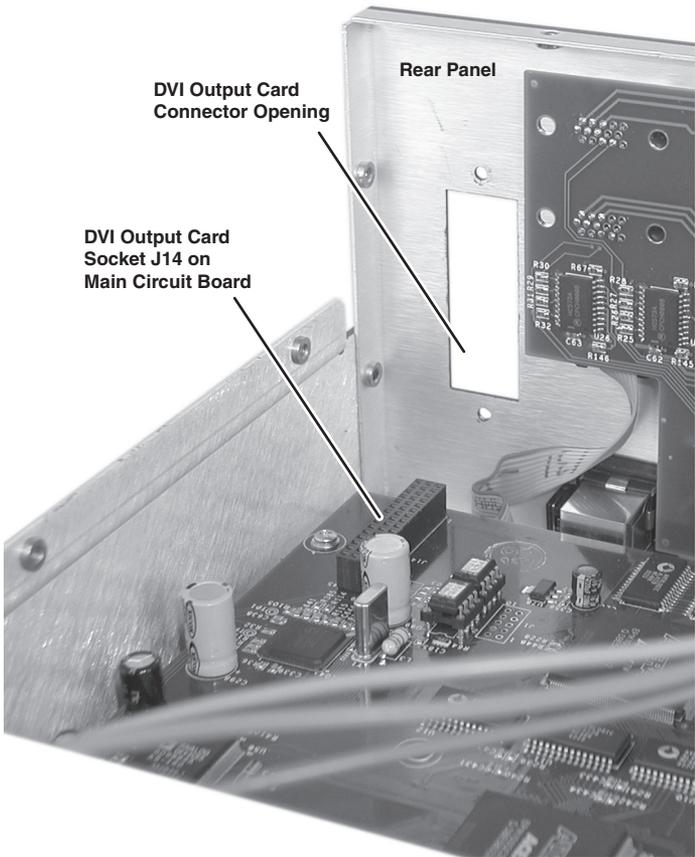

Figure 2 — DVI output card connector opening and socket J14
1. Locate the DVI output card connector opening on the rear panel and the DVI output card socket J14 on the left rear portion of the main circuit board, as viewed from the front (figure 2).